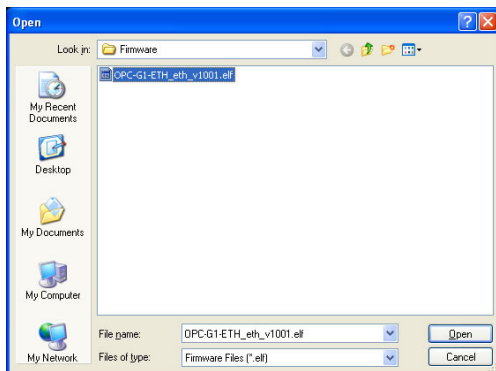

Figure 74: Locate Firmware File
2. Locate the firmware file (refer to Figure 74) and click Open.